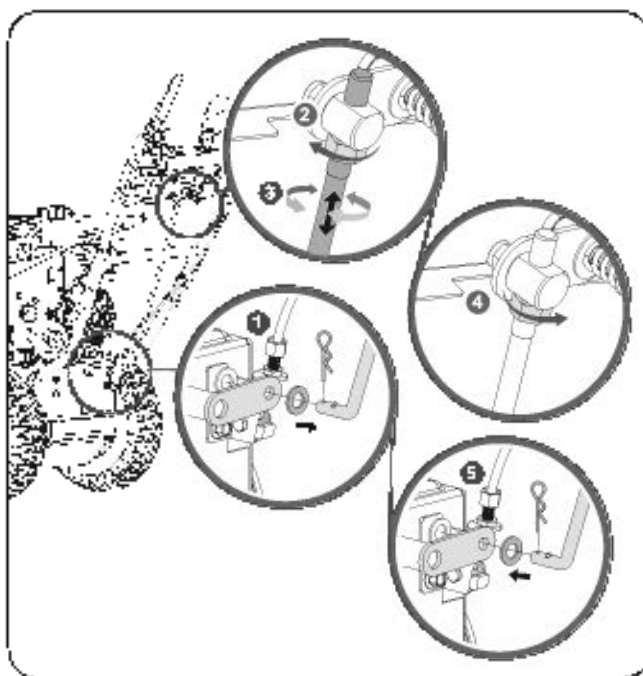

Figure 19
1. Disassemble the lower end of the shift rod from the shift arm. (See **Figure 19#1**.)
2. Loosen the lock nut in the upper end of shift rod. (See **Figure 19#2&3**.)
3. When the reverse position wrongly becomes to forward, rotate the shift rod counterclockwise for 1-3 turns. When the forward position wrongly becomes to reverse, rotate the shift rod clockwise for 1-3 turns. (See **Figure 19#3**.)
4. Fasten the lock nut in the upper end of shift rod. (See **Figure 19#4**.)
5. Assemble the the lower end of the shift rod to the shift arm. (See **Figure 19#5**.)